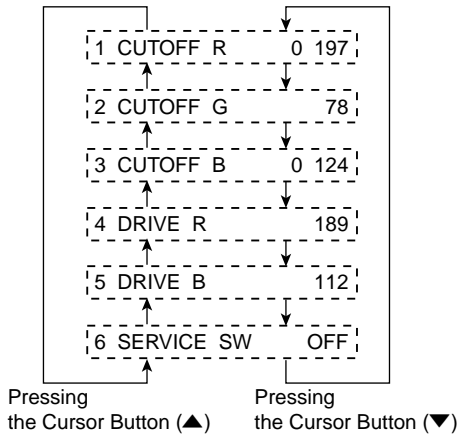

Fig. 3-4
- The item of the W/B MENU changes as shown in Fig. 3-4.